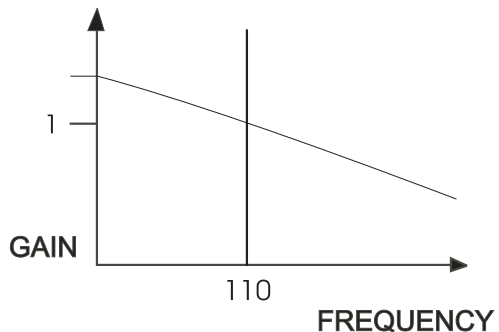

Figure 7 – Frequency response of 110 Hz Shelving Filter
- 6) Turn all the sliders down except the lowest one. Figure 7 shows the frequency response of just the lowest filter. Experiment by turning each slider up one at a time, while the rest of the sliders